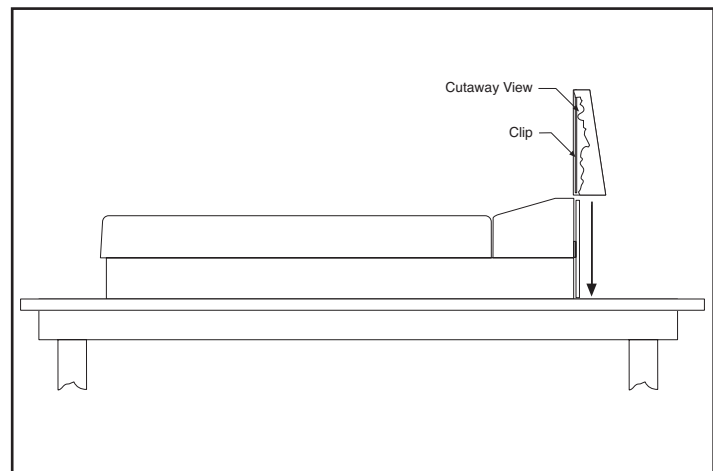

Figure 2-4b. Installing the Foot Cover (Side View)
3. Once the clips are in place, gently slide down until the foot cover is even with the front of the recorder as shown in Figure 2-4b.